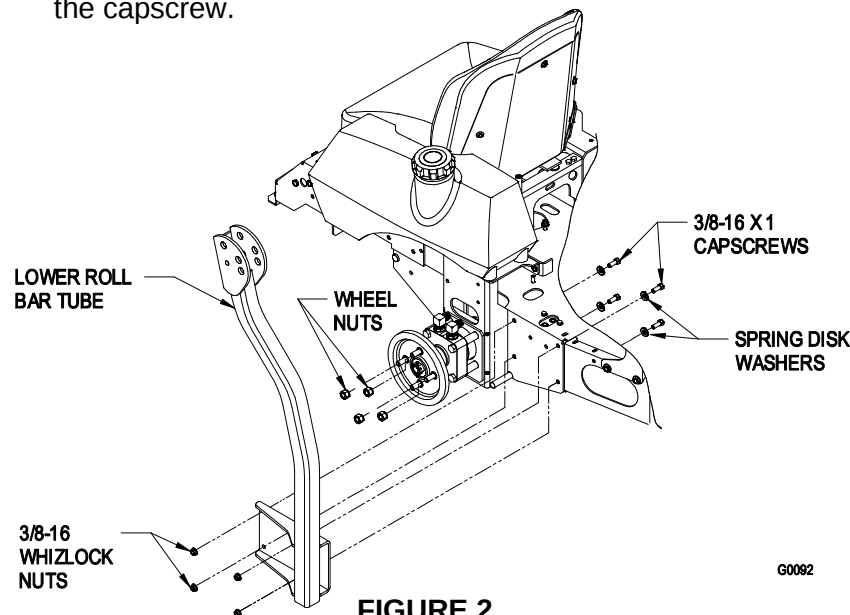

FIGURE 2
- Align lower roll bar tubes along wheel motor channels as shown in Figure 2.
- LOOSELY** install lower roll bar hardware (four 3/8-16 x 1 capscrews, four spring disk washers and four 3/8-16 whizlock nuts) from the bolt bag to the tubes on each side as shown in Figure 2: